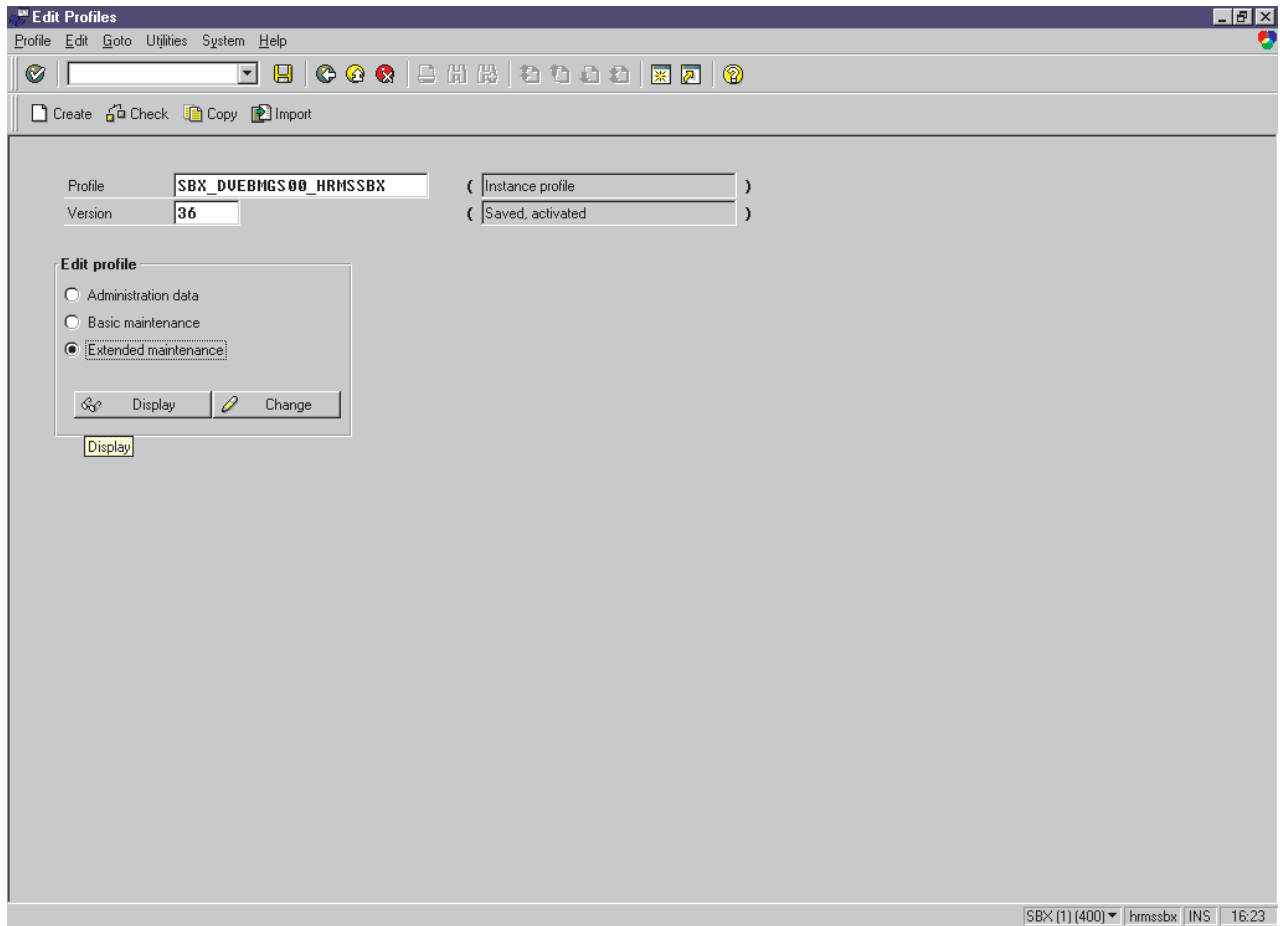

Figure 37. Edit Profiles window
1. Enter RZ10 in the **OK-Code** field to access the Edit Profiles window shown in Figure 37 on page 94.